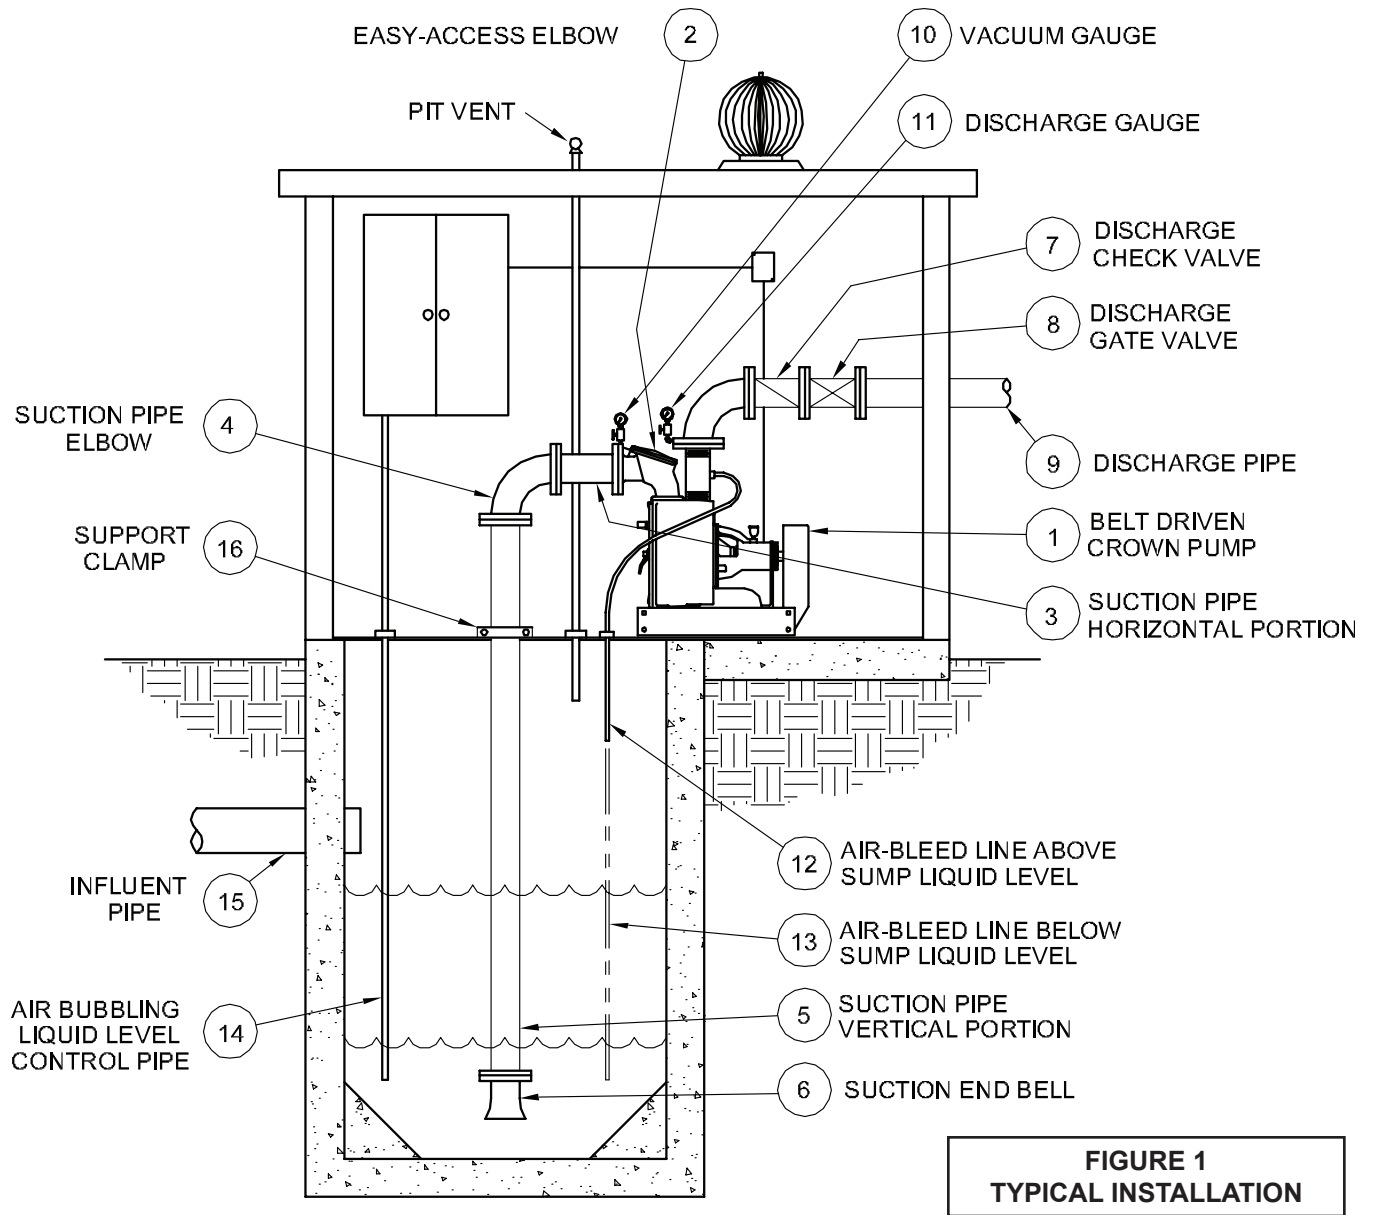

FIGURE 1
(See Figure 1 For Typical Installation)
- A.) Check the pedestal (item 42) for the proper amount of SAE No. 30 non-detergent oil.
- B.) Place the self feeding grease lubricator (item 38) in operation by turning the wing nut on the threaded plunger shaft counter clockwise as far as it will go. Do not force the plunger into the grease cup as this can cause a seal failure. See Section F, Paragraph. 1 and 2 for instructions on filling the grease cup
- A.) Drain the pump case by removing the one or two drain plugs (item 27) at the bottom of the pump case.
4. The discharge (item 8) (See Figure 1) of a self-priming centrifugal pump may be closed without damaging the pump. However, it is undesirable to run the unit for a long period of time with a closed discharge as the liquid in the pump case may heat up and reach the boiling point after a short period of time.
6. If the pump has been idle for some time between uses, it may appear to be stuck or locked in place. This sticking may be caused by a film of rust or dirt lodging between the impeller (item 28) and the pump volute (item 29). All that is necessary is to give the shaft a quick jerk.
7. Sometimes it is desirable to run a pump at a higher speed to improve priming without increasing capacity. This is done by increasing the speed of the pump, which increases the capacity and head, and then spring load or weight the discharge check valve (item 7) lever arm. This puts an imitation head on the pump. A powerful spring is needed if the speed is increased considerably. The spring or weight on the check valve will allow debris to pass through if necessary.